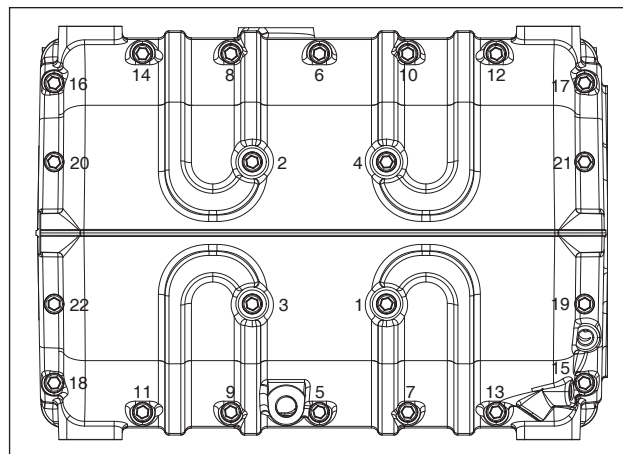

Fig. 112/a
Use a craft knife and feeler gauge to cut the surplus portion of the O-rings protruding from the front and rear casing joint in correspondence with the crankshaft flange (pos. ①, Fig. 112 and Fig. 112/a).